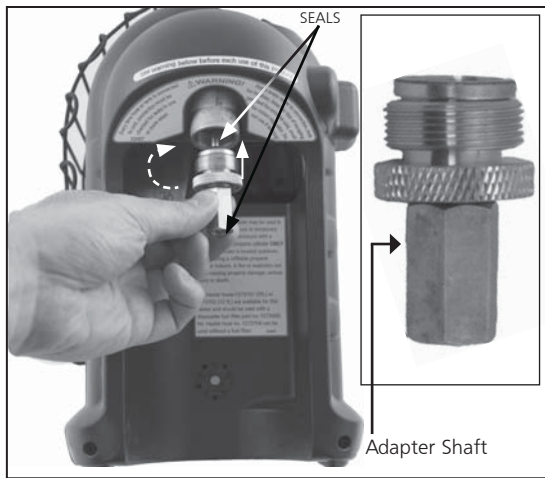

Figure 4: "Butane Adapter"
- Check that seals (between the appliance and the gas cartridge) are in place and in good condition before connecting to the gas cartridge. Figure 4. Do not use an appliance which has damaged or worn seals. Do not use an appliance which is leaking, damaged or which does not operate properly.
- To use with Butane/Propane mixture (G30+G31): Screw brass adapter clockwise into portable heater regulator (from bottom) until tight. See Figure 4. Do not use